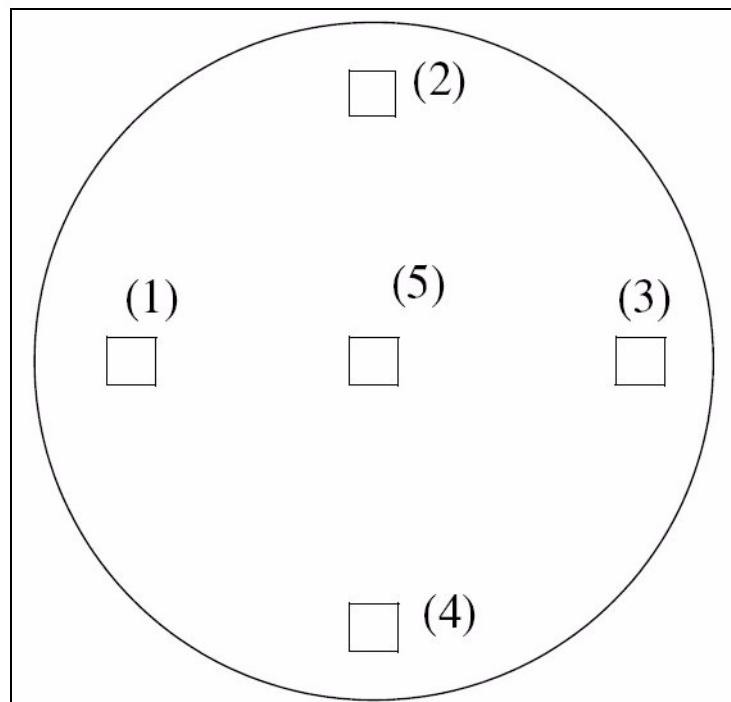

Fig. 1
- Record the grey values on the specified regions (Fig. 1; Tab. 3).